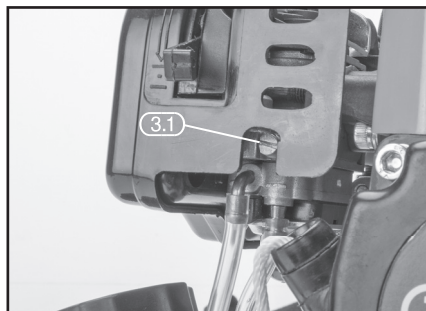

FIG. 38
15.3 ENGINE IDLE SPEED ADJUSTMENT - FIG.38